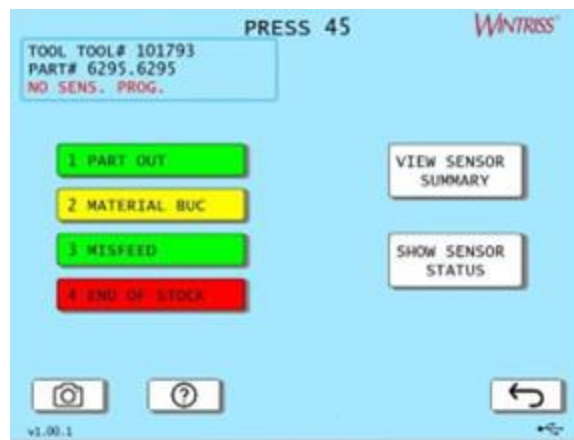

Figure 5-3. Die Protection Sensors Screen
1. On the Main Run screen, Figure 5-1, page 221, press NEXT or PREV to see additional menu items. Press Die Protection. The die protection screen appears, showing the sensors that have been programmed, Figure 5-3.
1. In the Main Run screen, press Die Protection. The die protection screen appears, showing the sensors that have been programmed, Figure 5-3, 224.